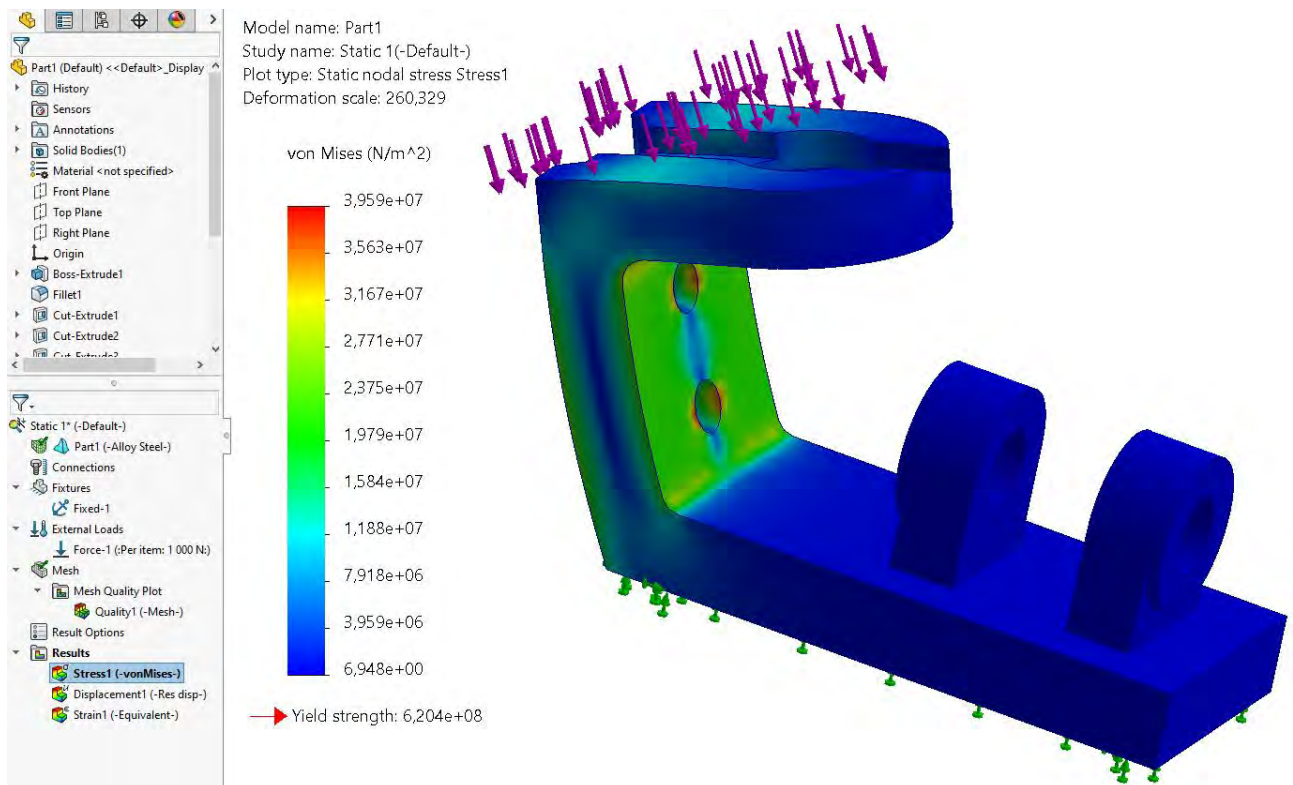

Figure 18 – Mises stress diagram
3. Find the maximum stress value on the scale. Compare this value with the yield strength (Yield strength) of the material, which is indicated on the scale by a red arrow (see Fig. 18).